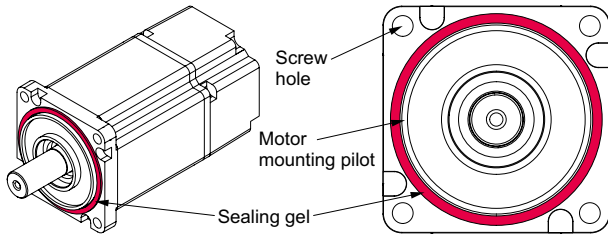

Figure 6: Sealing gel applied on the flange of the motor **9**.
- Apply the sealing gel **14** to the cleaned flange of the motor **9** as it is presented on the Figure 6 (the gel must be applied continuously in a closed loop around the motor mounting pilot on surface that comes into the direct contact with motor (adapter) flange **4** (make sure that the screw hole are outside the sealing gel); it should be noted that surface shape may vary depending on the motor manufacturer, model and size).